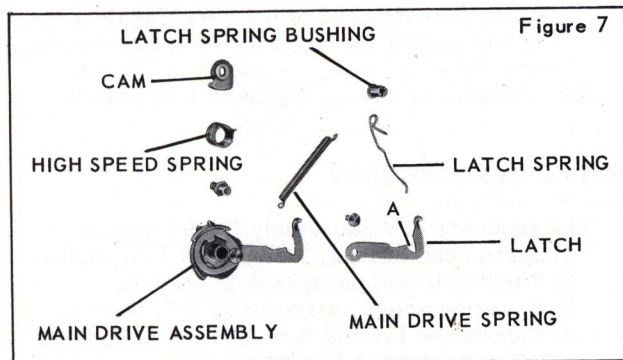

Figure 7
4. Unhook the MAIN DRIVE SPRING, figure 7, from the MAIN DRIVE SPRING STUD, figure 16.
3. Place the long end of the spring against the inner side of the blade controller LATCH SPRING BUSHING, figure 7.
4. Unhook the LATCH SPRING, figure 7, from the main drive LATCH.
7. MAIN DRIVE ASSEMBLY, figure 7, to which is attached the main drive spring.
1. Apply a thin film of grease (Texaco Unitemp-RCX169 Grease) to the slot on the main drive assembly where it engages the stop stud on the SETTING LEVER, figure 13; on the MAIN DRIVE STUD, figure 16; on the LATCH, figure 7, at the point of contact with the LATCH SPRING, and on the latch where it contacts the RETARDING SECTOR STUD, figure 16. This area of the latch should be burnished before applying the lubricant.
10. Blade controller LATCH SPRING BUSHING, figure 7 and the LATCH SPRING.